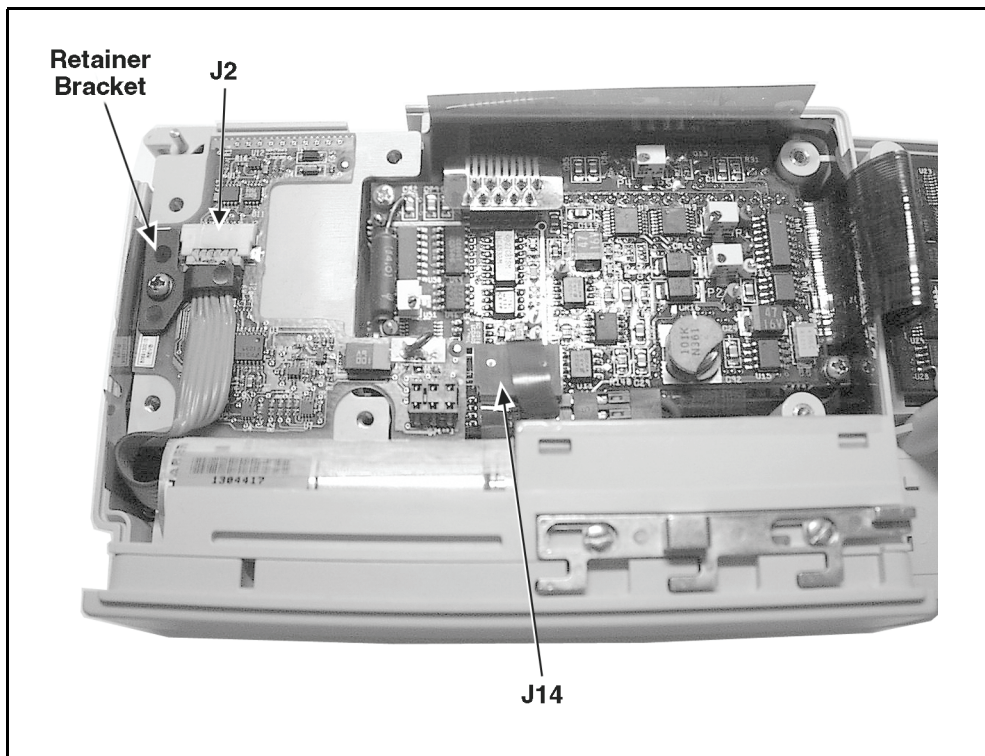

Figure 6-28. Installing the Mechanism Assembly
1. Refer to Figure 6-28. Slide the Mechanism Assembly (p/n B069120016RP) down into position on the Front Case, being careful not to pinch any of the existing wires. Ensure both the Motor Cable and the Flex Cable are not trapped under the Mechanism Assembly. The ribs and bosses of the Front Case must be engaged into their respective slots on the ends of the Mechanism Assembly.
3. Refer to Figure 6-28. Grasp the edges of the 15-pin Flex Cable connector from the mechanism assembly and insert it into J14 on the Secondary PCB. DO NOT press on the Flex Cable itself.
4. Refer to Figure 6-28. Apply Nyogel 760G onto the pins of J2 connector on the DDMM PCBA. Plug the six-pin motor connector from the Mechanism Assembly into J2 on the DDMM PCBA (note pin 1 orientation). Ensure the Motor Connector is fully seated into J2. Wipe off excess Nyogel 760G using a cotton swab or cloth.
5. Refer to Figure 6-28. Apply Loctite 425 to the threads of a 2-56 x 3/8" Screw (p/n 5101103). Use this screw to secure the Retainer Bracket, ESD Flex Circuit, DDMM PCBA, and Battery Wall to the pump housing. The ring of the ESD Flex Circuit should be positioned between the DDMM PCBA and the Retainer Bracket. Ensure the DDMM PCBA connector is properly seated on J6 of the Secondary PCB, then tighten the screw with a torque of 22-28 in-oz.